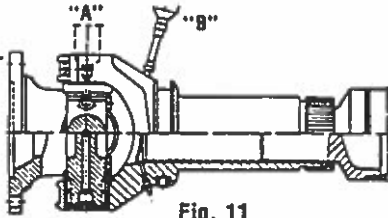

Fig. 11
Cross and bearing (Point "A" - Fig. 11) and steady bearing — lubricate with a good quality lithium soap base or equivalent E.P. grease for speeds over 500 RPM or SAE 140 to 250 oil for speeds under 500 RPM. NOTE: Lubricant MUST APPEAR at all four bearing seals to assure removal of dirt and contaminants. It may be necessary to move drive shaft from side to side while applying gun pressure to allow greater clearance on the thrust end of bearing that is not purging.
2. Sliding splines in slip joint - lubricate with only good grade of long fiber grease ("B" Fig. 11).